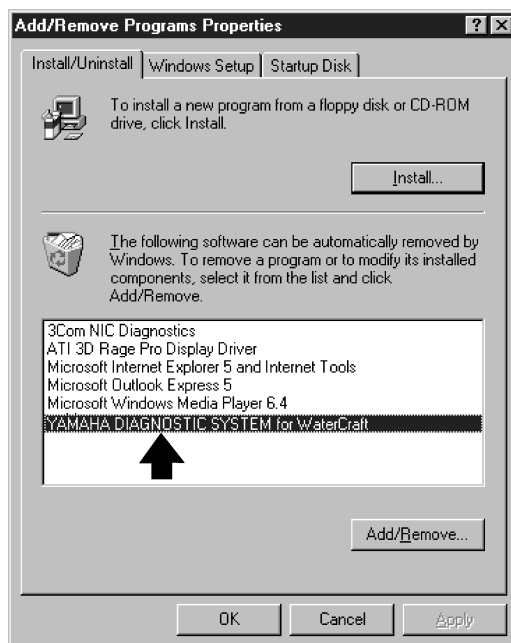

Fig. 67
4. Select **YAMAHA DIAGNOSTIC SYSTEM for WaterCraft** and click the **Add/Remove** button. (Fig. 67)